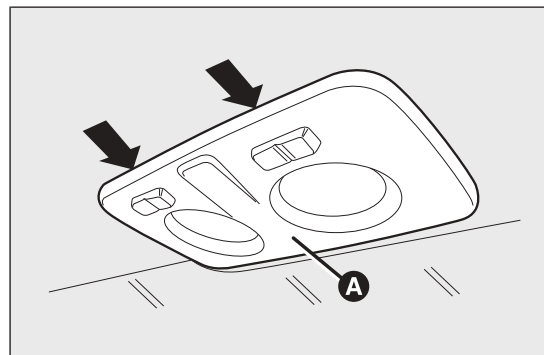
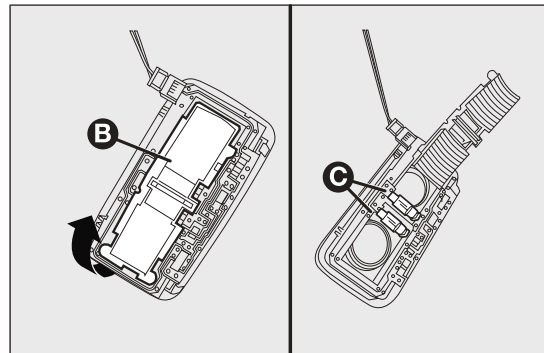

fig. 156
fig. 157
- operate in the points indicated by the arrows and remove light A fig. 156;
- open protective flap B fig. 157;
- close flap B fig. 157 and fix roof light A fig. 156 in its housing, making sure that it locks into place.